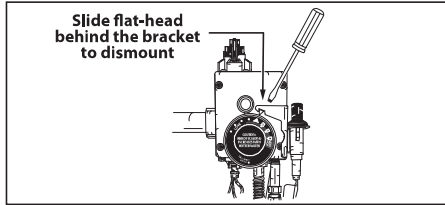

Figure 48 - Igniter with bracket dismount
**1** Remove the igniter with the igniter bracket by sliding a 1/4" flat-head screwdriver behind the top of the igniter bracket and gently remove allowing the igniter to hang freely off to the side of the unit. (See Figure 48).
**7** Reinstall the igniter with bracket and reconnect both wire leads that go to the thermal switch (See Figures 48 and 51).